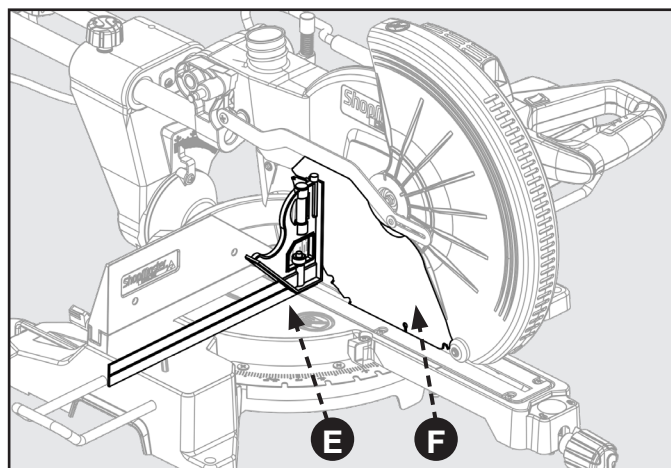

FIGURE 12
Refer to Figure 12.
9. The edge of the square and the saw blade should be parallel as shown in Figure 12.